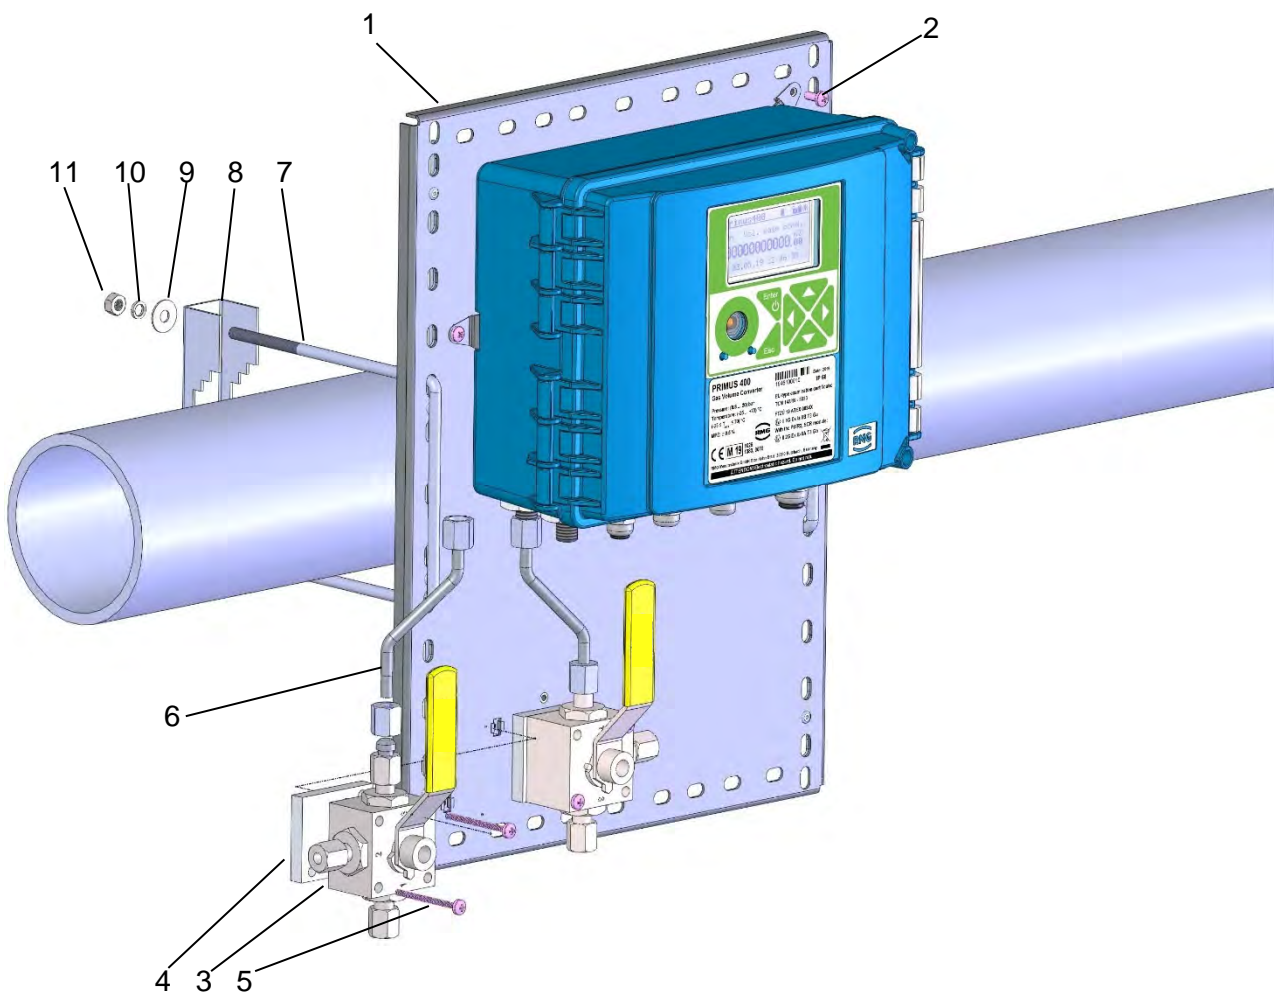

Fig. 6: Mounting the device on a pipe
Clamps (7) (see Fig. 6) with spacings corresponding to the pipe diameters are reeved through the openings in the mounting plate (1) and inserted over the pipe. Fasteners (8) are fixed onto the free ends of the clamps by means of nuts M6 (11) and washers (9) and (10) to secure the mounting plate in the desired position on the pipe. The mounting plate can be used for fixing to a pipe of diameter:
The corrector connected via the 3-way valve is shown in Fig. 6. Pressure tube 6x1  with cutting ring pre-pressed on both sides is first thoroughly inserted into the pressure inlet of the device and secured with M12x1,5 ERMETO nut. The other end of the tube is attached to the 3-way valve working outlet fitted on the mounting plate and the nut is gently tightened. The last operation is tightening the nuts on both sides of the connecting pressure pipe. Excessive force must not be applied when tightening the key, otherwise the thread will be damaged.